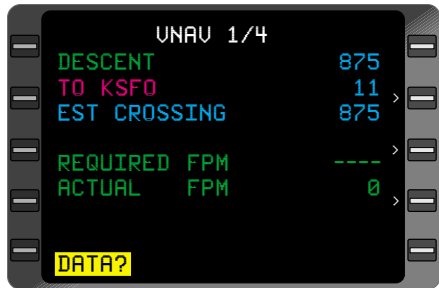

Figure 3-119
2. Line Select Key - DEPRESS to position cursor over **DATA?**. (Figure 3-119)
If configured, altitude preselector information will be displayed at the bottom of the screen. If the aircraft is in a climb or descent, distance and ETA information to the preselected altitude will be displayed. (Figure 3-119)